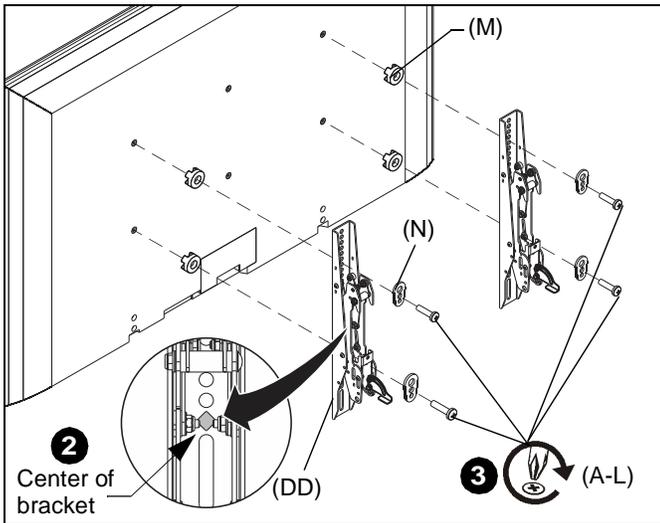
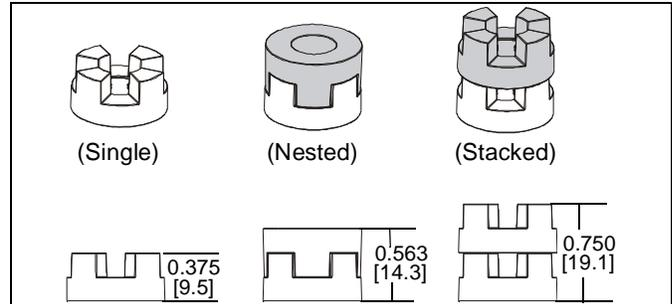

Figure 6
Figure 7
2. Align the center of the interface bracket (EE) with center of display. (See Figure 6)
3. Select correct screws, spacers (if necessary) and universal washers from the hardware bag (A-N) and attach brackets (EE) to back of displays. (See Figure 6)
**IMPORTANT ! :** The M8 screws do **NOT** require a washer. Use the universal washer (N) only with M4, M5 and M6 screws.
**NOTE:** The nesting spacers (M) may be used separately, or put two together in different configurations to create different size spacers. (See Figure 7)